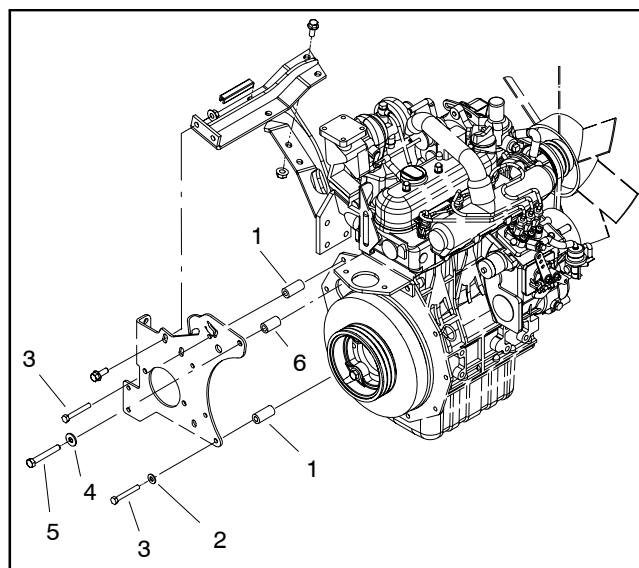

Figure 52
8. Remove both flange head screws (item 27) and flange nuts (item 25) that secure pump support (item 28) to engine mount (item 58).
9. Remove fasteners and spacers securing the pump mount plate to the engine (Fig. 52). Note location of cap screws, washers and spacers for assembly purposes. Pull pump mount plate with pumps, pump pulley, pump support and idler assembly from the machine.
10. Remove both cap screws (item 56) and flat washers (item 55) securing gear pump to the piston pump. Separate gear pump from the piston pump. Locate and retrieve o-ring (item 54). Plug openings of gear pump to prevent contamination.
- A. Remove three (3) cap screws (item 36) and lock washers (item 37) securing pulley to the taper lock bushing.
7. Position pump mount plate with pumps, pump pulley and idler assembly to the machine. Install fasteners and spacers securing the pump mount plate to the engine and pump support (Fig. 52). Tighten fasteners securely.
8. Position and secure pump support (item 28) to pump mount plate, piston pump and engine mount with removed fasteners and spacers.